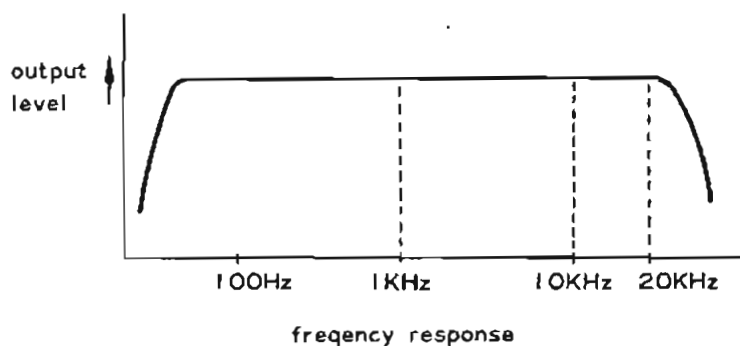

Fig. 3
- e) As shown in Fig. 3, increase the frequency of the Audio Frequency Oscillator by steps from 1 KHz to 10 KHz. Adjust Bias Voltage and Bias Head angle including the gap between Bias and Recording heads. The V.T.V.M. which is connected to the Line Output, should indicate the same voltage when using 1 KHz to 10 KHz.